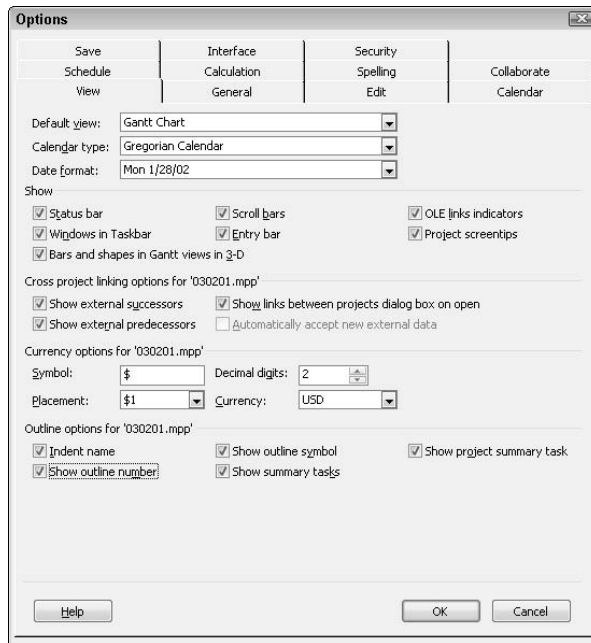

Figure 2-2:
3. Select the **Show Outline Number** check box in the Outline Options section (see Figure 2-2).